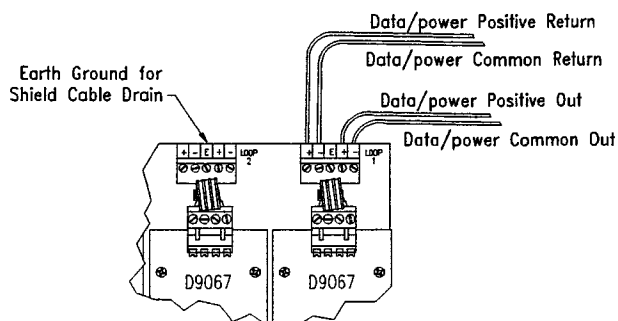

Figure 5: "E" Terminal Location
- If EMI is a problem, use shielded cable, being careful to ground the drain wire to the "E" terminal on the FACP Control Module (See Figure 5).